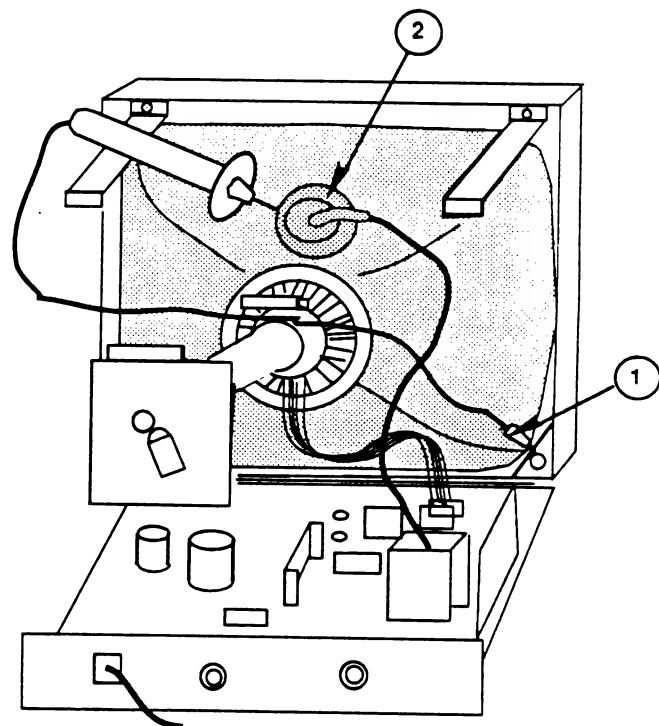

FIGURE 13
4. Attach the clip of the CRT discharge tool to any metal part of the chassis (Figure 13, #1).
6. Hold the CRT discharge tool to the tube surface, and insert its probe under the anode cap (Figure 13, #2) until it touches the anode ring.